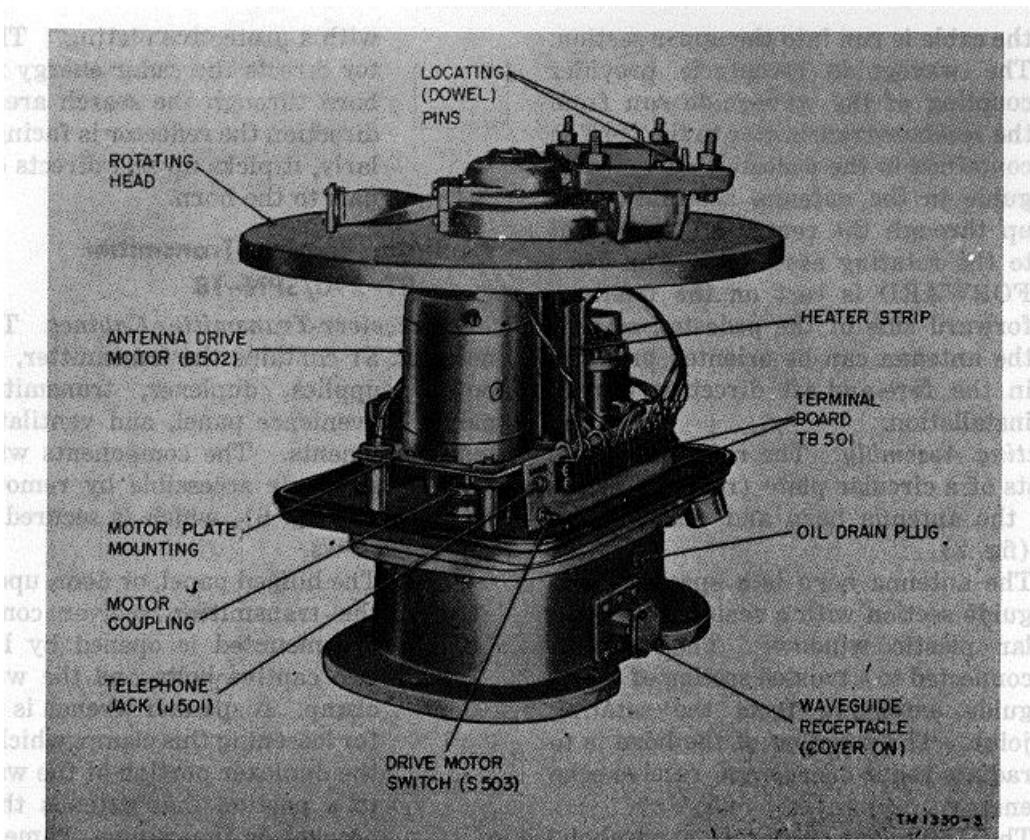
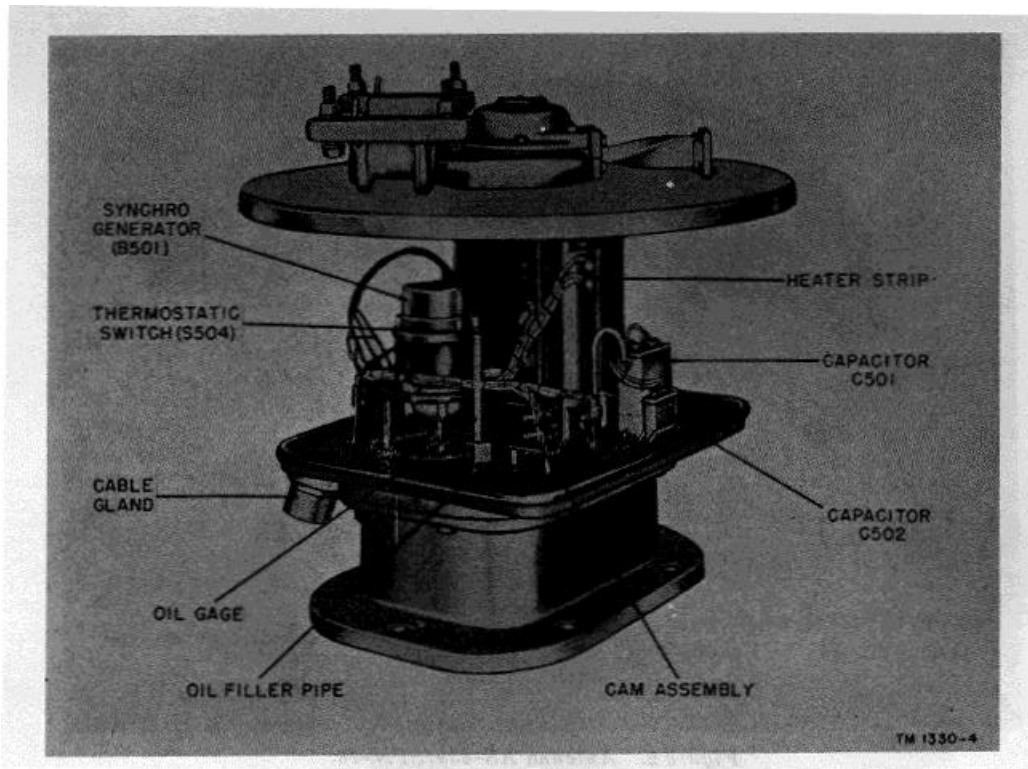

Figure 3. Antenna AS-659/SPN-18, rear oblique view with covers removed.
Figure 4. Antenna AS-659/SPN-18, front oblique view with covers removed.
a. *Antenna Pedestal.* The pedestal (figs. 3 and 4) is a two-section, cast-aluminum housing which contains the azimuth drive components.
- (1) The upper section, or upper drive assembly, has two removable covers. It contains the following components.
- (a) The antenna drive motor (fig. 3) drives the antenna rotating assembly in azimuth.
- (b) The syncho transmitter, also called a synchro generator (fig. 4), synchronizes rotation of the PPI sweep with the rotation of the antenna.
- (c) The antenna cam assembly (fig. 4) actuates heading flash circuits in the indicator. The cam assembly is mechanically linked to the synchro generator.
- (d) The heater unit (heater strips (figs. 3 and 4), capacitor C502 (fig. 4), and thermostat S504 (fig. 4)) maintain reasonably constant temperature within the pedestal.
- (e) Terminal board TB501 (fig. 3) mounts drive motor switch S503, a telephone jack, and terminal stud screws (for cable W702). The drive motor switch permits manual control of the drive motor at the antenna location by maintenance personnel, and the telephone jack allows communication.
- (2) The lower section contains the gear assembly through which power is applied from the drive motor to the rotating assembly. The gears are immersed in oil, and an oil drain plug is located above the waveguide connection (fig. 3). The oil filler pipe and gage extends into the upper section. Above and to the right of the drain plug is a cable gland through which